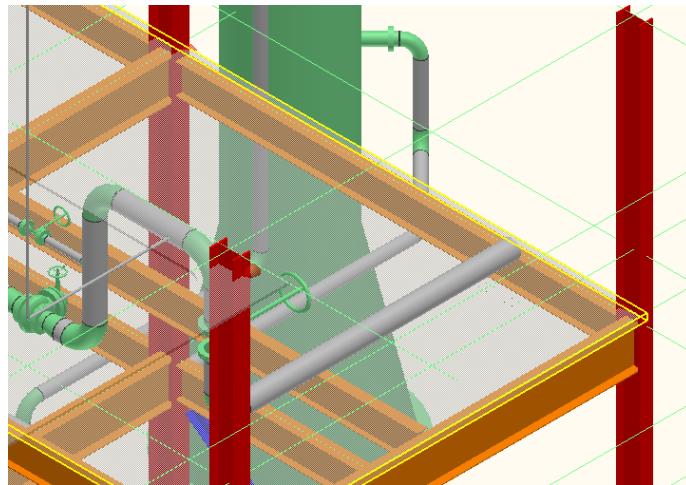

Figure 6: Supporting Slab
- In the select structure smartstep, select the indicated slab *shown highlighted below in Figure 6* under the pipe straight feature of **300-W**, as shown in Figure 6.